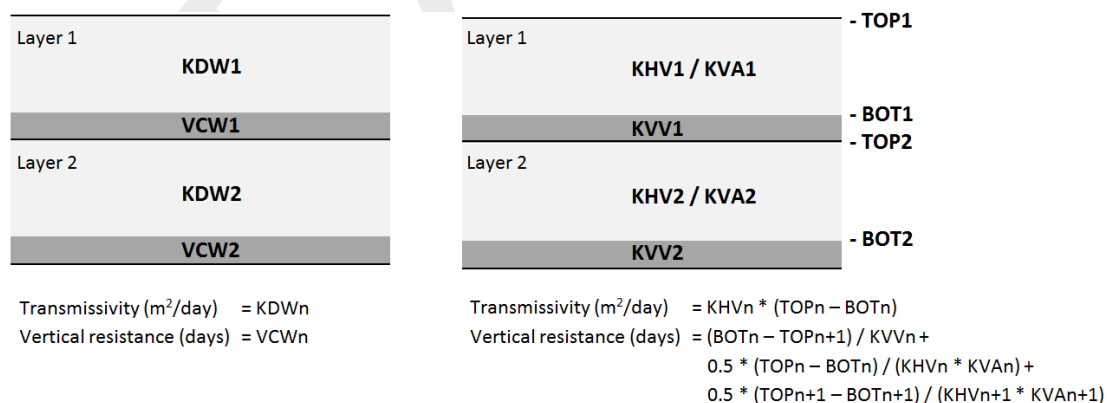

Figure 12.3: Hydraulic layer parameters used in iMODFLOW
The transmissivity (L^2/T) of each modellayer is defined by one IDF (or a constant value). Alternatively the transmissivity of a modellayer may be defined by the product of the horizontal permeability defined in the KHV package and the layer thickness derived from the TOP and BOT package (see Figure 12.3). The KDW transmissivity corresponds with the TRAN variable specified in the MODFLOW BCF package.
The vertical resistance (T) of each modellayer is defined by one IDF (or a constant value). Alternatively the vertical resistance of a model layer may be defined indirectly by the layer thicknesses derived from the TOP and BOT package, the vertical permeability defined in the KVV package, the horizontal permeability defined in the KHV package and the vertical anisotropy defined in the KVA package (see Figure 12.3). The VCW vertical resistance corresponds with the reciprocal of the VCONT variable specified in the MODFLOW BCF package, so $VCW = \frac{1}{VCONT}$.
The horizontal permeability (L/T) of each modellayer is defined by one IDF (or a constant value). The horizontal permeability is used in combination with the layer thickness to calculate the transmissivity of a modellayer (see Figure 12.3). The KHV horizontal permeability corresponds with the HY variable specified in the MODFLOW BCF package and the HK variable specified in the MODFLOW LPF package.
The vertical anisotropy (-) of each modellayer is defined by one IDF (or a constant value). The vertical anisotropy is multiplied with the horizontal permeability to calculate the vertical permeability in the permeable part of a modellayer (see Figure 12.3). The KVA vertical anisotropy corresponds with the VKA variable specified in the MODFLOW LPF package.
The vertical permeability (L/T) of the resistance layer between two modellayers is defined by one IDF (or a constant value). The vertical permeability is used in combination with the thickness of the resistance layer to calculate the vertical resistance between two modellayers (see Figure 12.3). The KVV vertical permeability corresponds with the HY variable specified in the MODFLOW BCF package and the VKCB variable specified in the MODFLOW LPF package.
The top level of the permeable part of each model layer (see Figure 12.3) is defined by one IDF (or a constant value). The TOP level corresponds with the TOP variable specified in the MODFLOW DIS package.
The bottom level of the permeable part of each model layer (see Figure 12.3) is defined by one IDF (or a constant value). The BOT level corresponds with the BOTM variable specified in the MODFLOW DIS package.